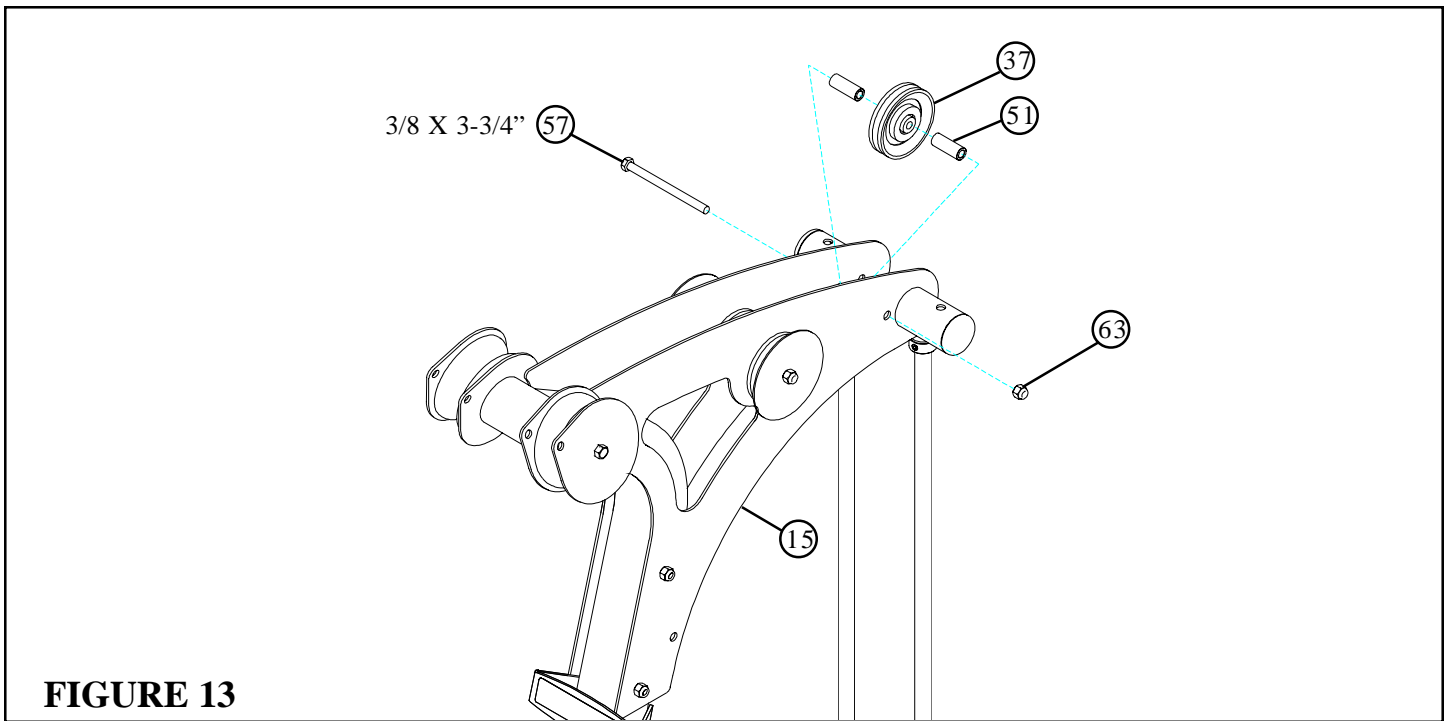

FIGURE 13
- Assemble one 3-1/2" PULLEY (37) to the BOOM PLATES (14 & 15) using one 3/8 X 3-3/4" BOLT (57), two 3/8 X 1" SPACERS (51) and one 3/8" LOCK NUT (63). See FIGURE 13.